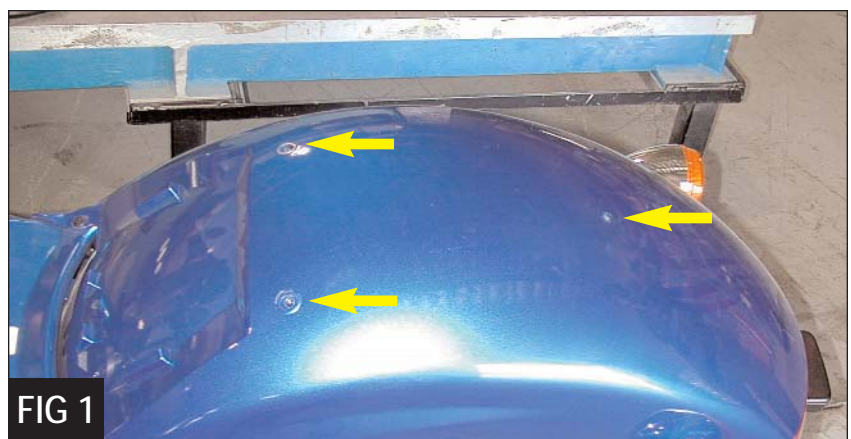
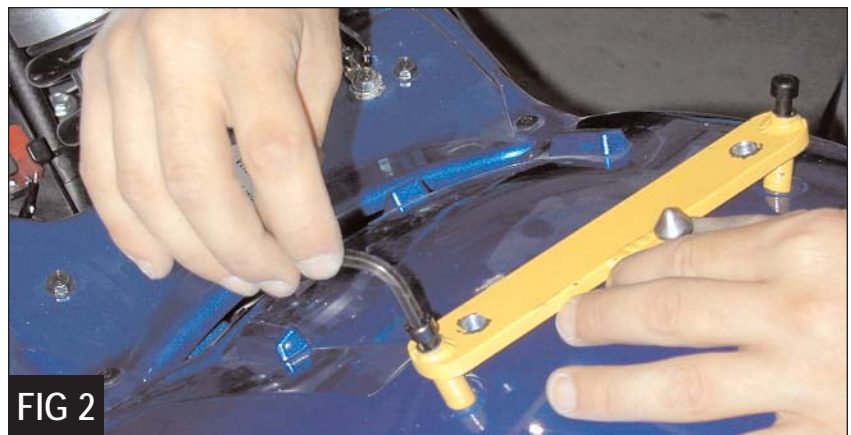

FIG 1
FIG 2
2. Locate the holes in your bikes frame (Figure 1).
3. Install the Corbin locking bracket in the location in Figure 1 and secure with the supplied m6 x 40mm socket head Allen bolts (Figure 2). Tighten to 12 ft. lbs.